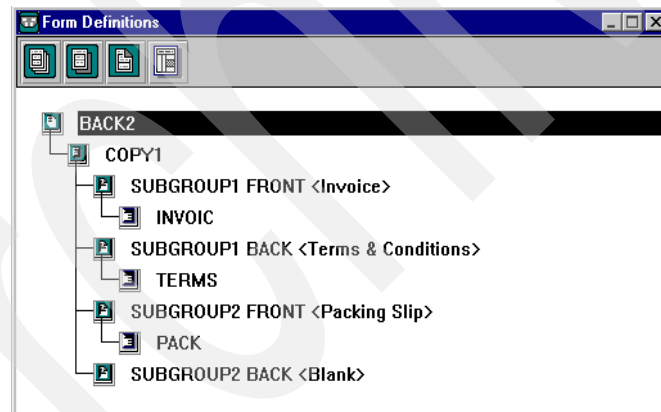

Figure 33. Form definition with constant back
7. When you are done making all these modifications, your Form Definition window should look like the example in Figure 33. Note the value of comments and a good naming convention.